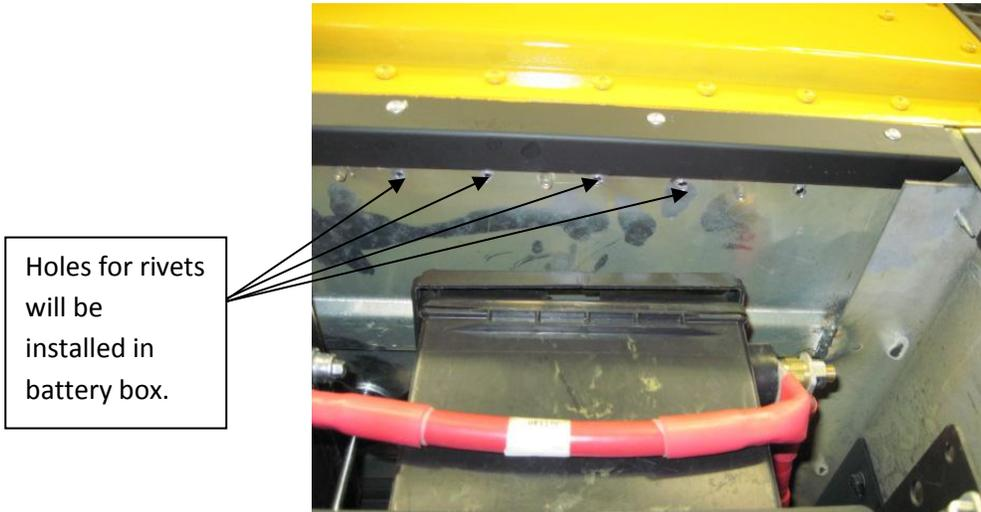

Figure 4
- 6 If a battery box happens to fall on one side of the sheet you are working on then the same process will be used, it will just go up through the battery box and again you will use two rivets between the two rivets already there. This will continue all the way across the battery box inside top as shown in Figure 4.